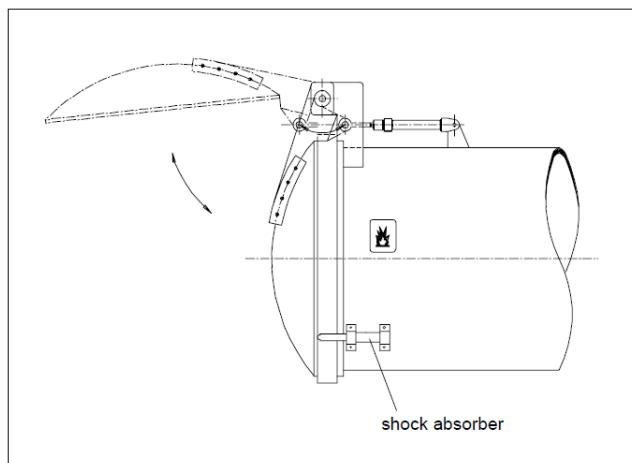

Figure 4(c) / Rajah 4(c)
- (c) To insert or remove workpieces, the boiler door of a hardening furnace as shown in Figure 4(c) has to be opened for a short time. The door is opened and closed by a double acting hydraulic cylinder. Actuation of the cylinder should be possible both by a hand operated push button and a foot operated button. After the appropriated push button is released, the cylinder should retract and close the boiler door.